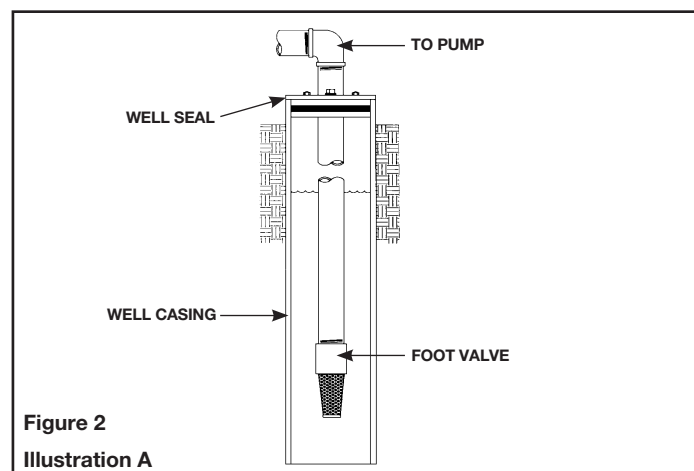

Figure 2
A shallow well pump can be used when the pump is located less than 25 feet vertically of the water level. Shallow well pumps have only one pipe between the pump and the water supply (Figure 2).
1. Install a foot valve on the first section of pipe (Figure 2, Illustration A).
NOTE: A packer type foot valve can be installed in the well (Figure 2, Illustration B). This type of foot valve allows the well to be filled with water when priming and makes the inlet pipe much easier to test for leaks. Follow the manufacturer's instructions when installing the packer type foot valve.
As an alternative, an in-line check valve can be used with a driven well (Figure 2, Illustration C). The pipe between the check valve and the water level will always be under a vacuum.